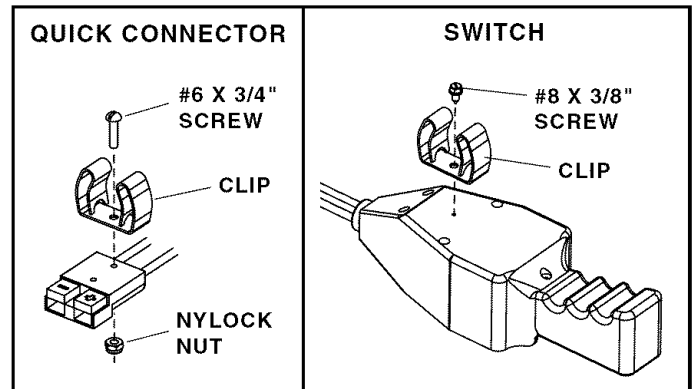

FIGURE 8
4. Route the wire harness from the battery to the rear of the vehicle. Be sure the wires are clear of any moving parts, hot engine parts, or pinch points. Attach a clip to the quick connector on the wire harness using a #6 x 3/4" screw and a nylock nut. Clip the quick connector to the rear rack. See figure 8.